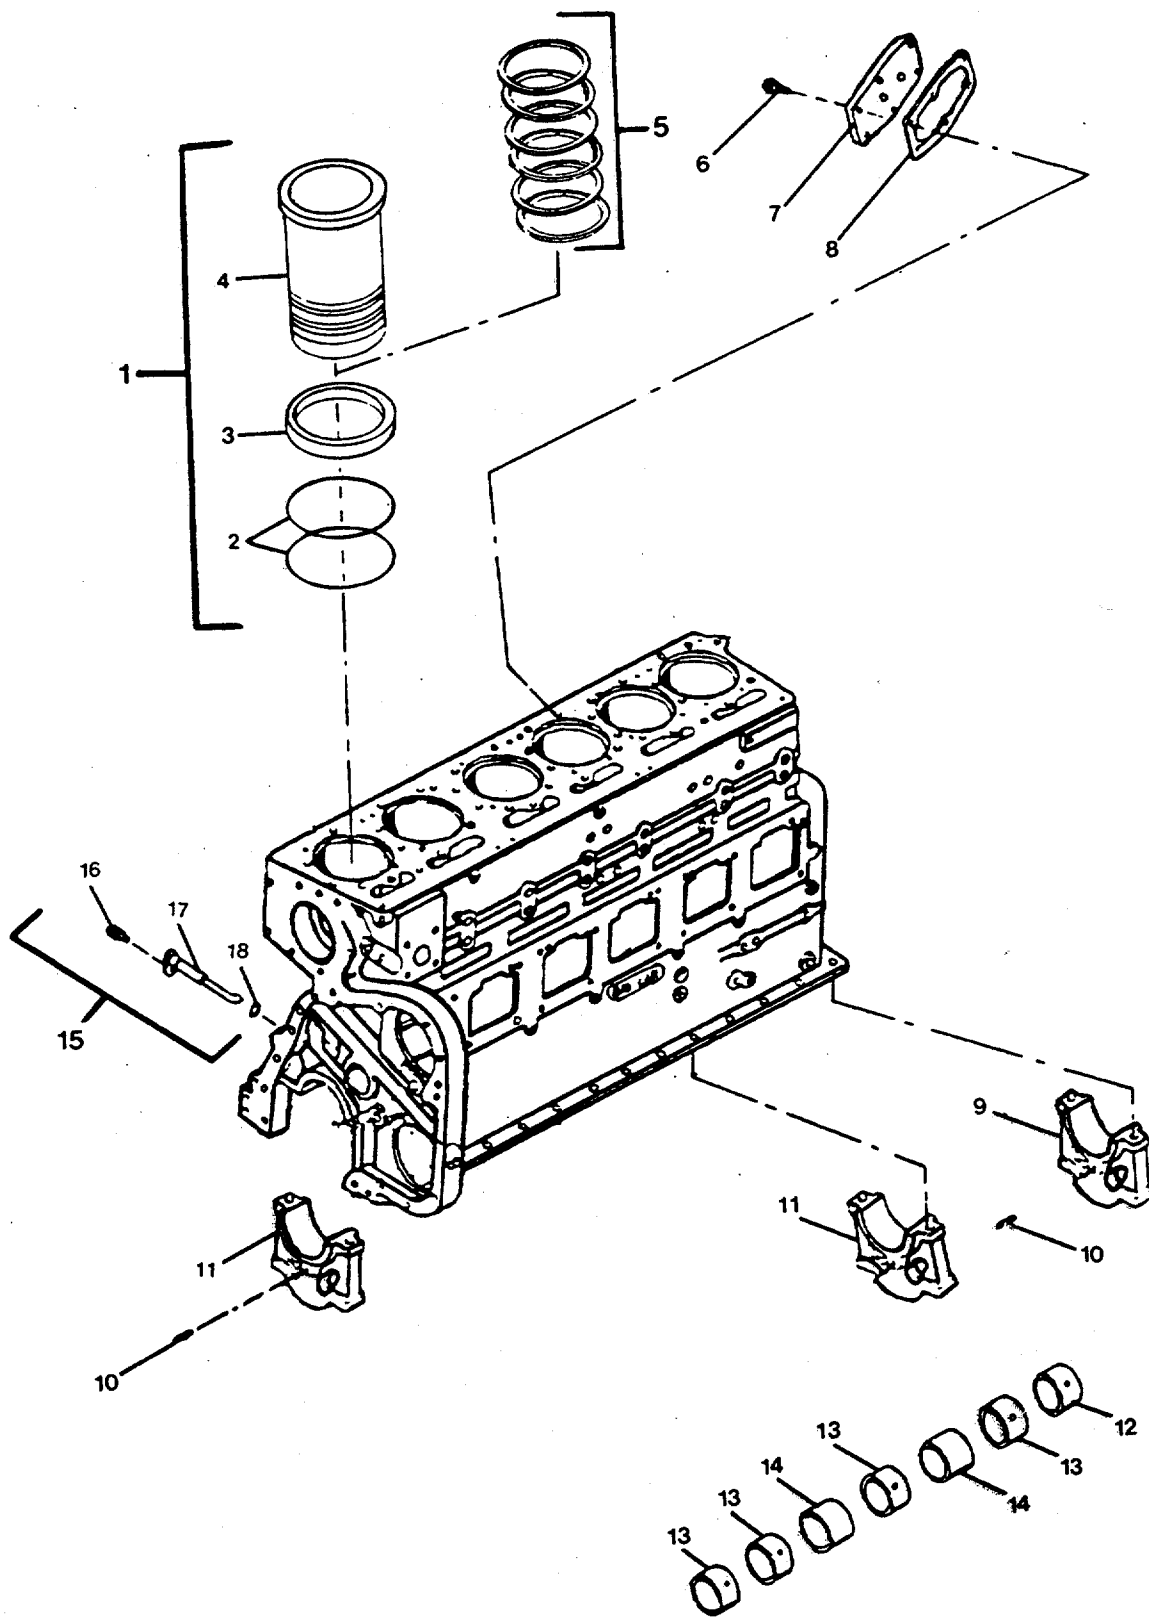
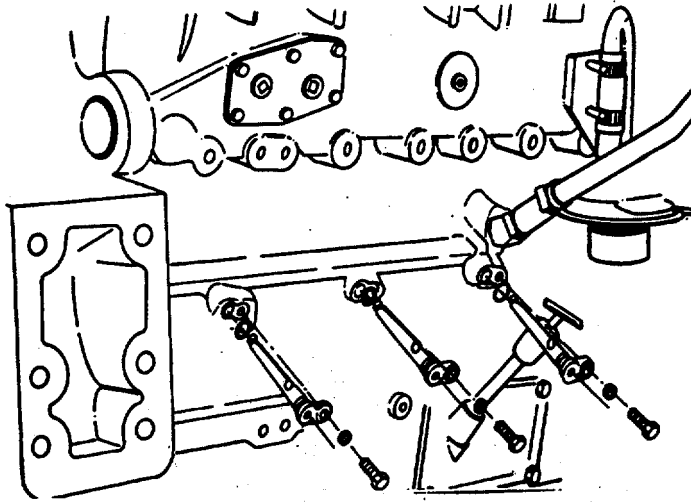

FIGURE 4-55. Cylinder Block Group.
FIGURE 4-63. Piston Cooling Nozzles.
- (1) Remove the liner (4, FIGURE 4-55) .
(d) Remove and discard the performed packing (2, FIGURE 4-55) and gasket (3).
Do not discard the shims (5, FIGURE 4-55) which may be used under the cylinder liner flange.
(3) Install the cylinder sleeves (liners).
- Be sure that the cylinder block and all parts are clean before assembly. If used liners are being installed again, any shims (5, FIGURE 4-55) that were removed must be installed.
(a) Lubricate new liner preformed packings (2, FIGURE 4-55) and gasket (3) with vegetable oil.
1 Install the gasket (3, FIGURE 4-55) in the top groove of the liner (4).
2 Install the preformed packings (2, FIGURE 4-55) in the center and the bottom grooves.
- c. Remove and inspect the piston cooling nozzles (15, FIGURE 4-55) .
- (1) Remove the six self-locking screws (16, FIGURE 4-55) and pull the nozzles (17) from the cylinder block as illustrated in FIGURE 4-63 .
- (2) Remove and discard the preformed packing (18, FIGURE 4-55) .
- (3) Clean the piston cooling nozzles with an approved solvent.
- (4) Blow out the oil passages with compressed air.
- (5) Visually inspect the cooling nozzles for cracks or damage.
- (6) Visually inspect the screws for damaged threads.
- (7) Replace any damaged parts.
- (10) Install the nozzles in the cylinder block.
- (11) Install the self-locking screws.
- d. Replace the camshaft bushings and bearing (13, 14, 12, FIGURE 4-55) as follows: